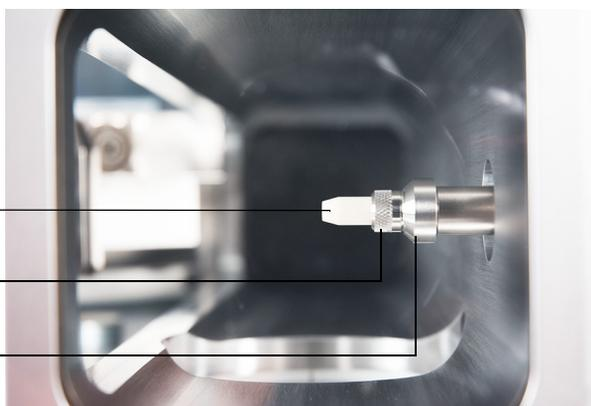

Figure 18 Interface tip seal
- 1 Verify that the CI source, EI XTR source, or HES is installed. This tip seal and its spring must not be installed when an EI SS or Inert source is installed. (See Figure 18.)